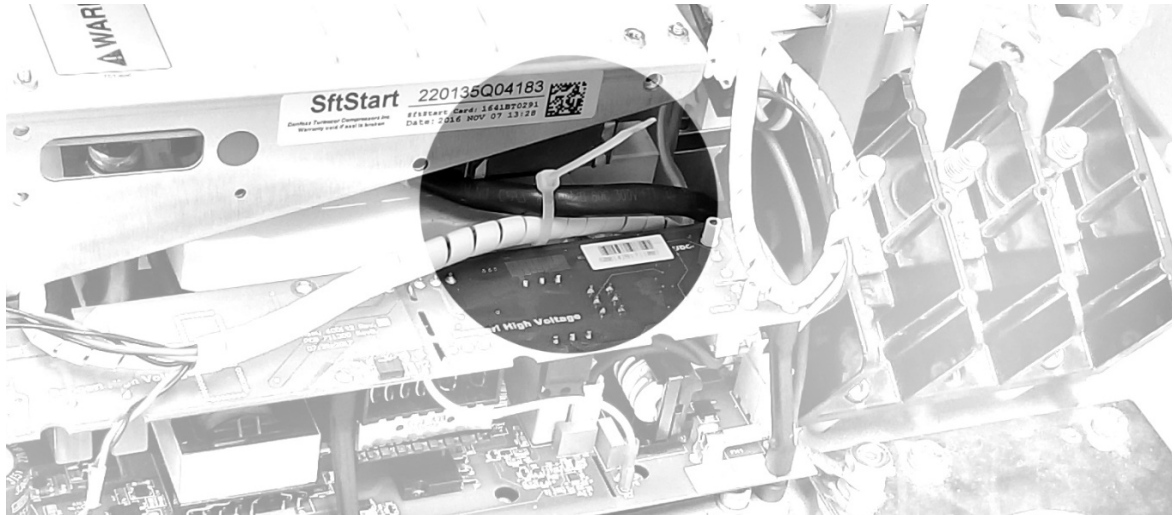

Figure 13 – DC-DC Converter Harness Cable Tie
8. Once all connectors are installed, secure the DC-DC Converter Harness Cable to the IGBT to Backplane Harness with a cable tie as shown in Figure 13 (DC-DC Converter Harness Cable Tie).